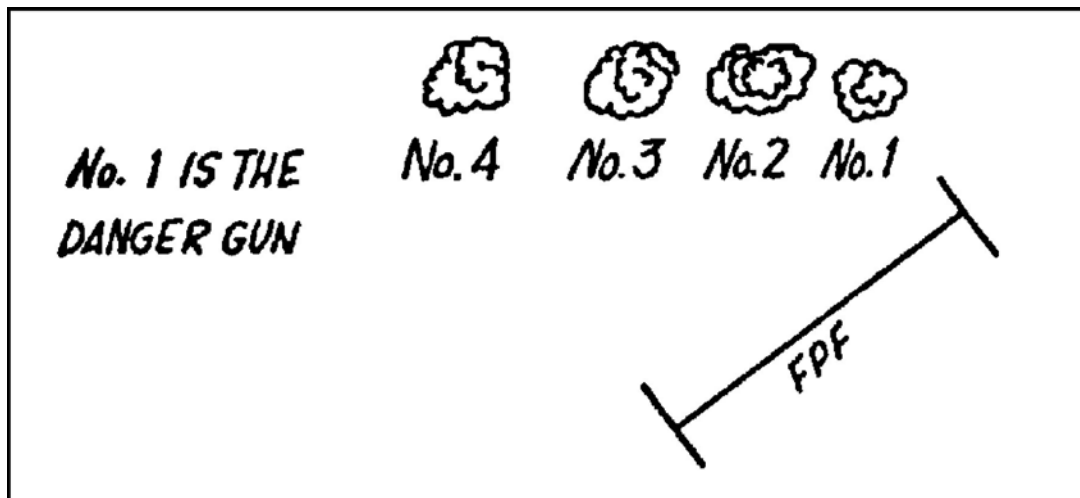

Figure 2. Danger Gun Depiction
- a. Upon receiving the initial fire command, the entire section fires one round of high explosive (HE) with delay fuze.
- b. The FO observes the impact of the four rounds and determines which mortar's round impacted closest to the FPF line or to friendly forces. This mortar is referred to as the danger gun (Figure 2).